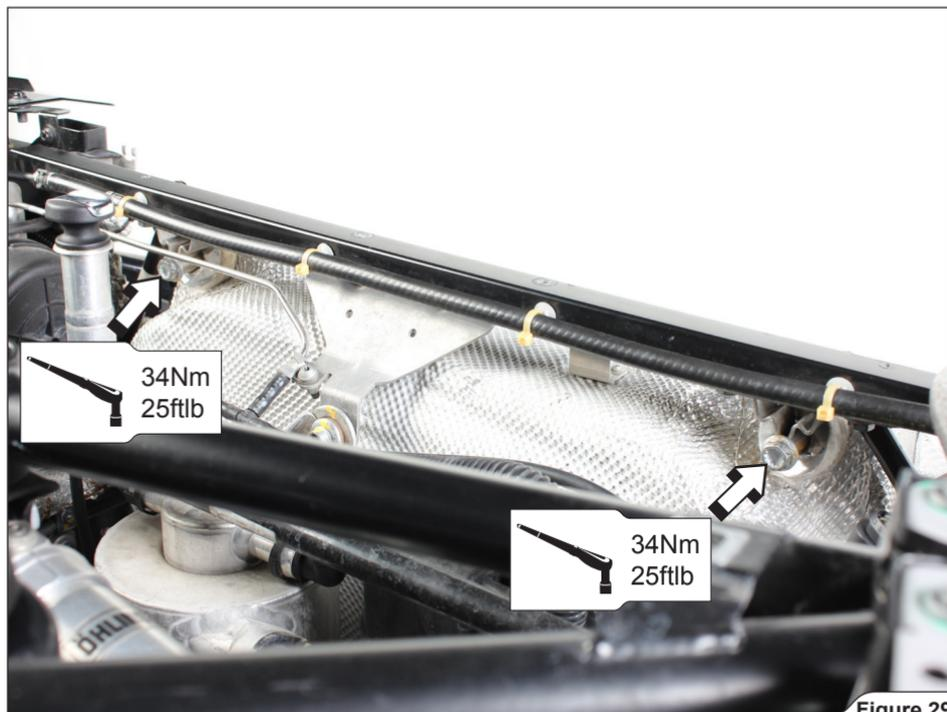

Figure 29
- Carefully install the muffler onto the chassis and tighten the upper muffler's brackets, using stock bolts (Figure 29).